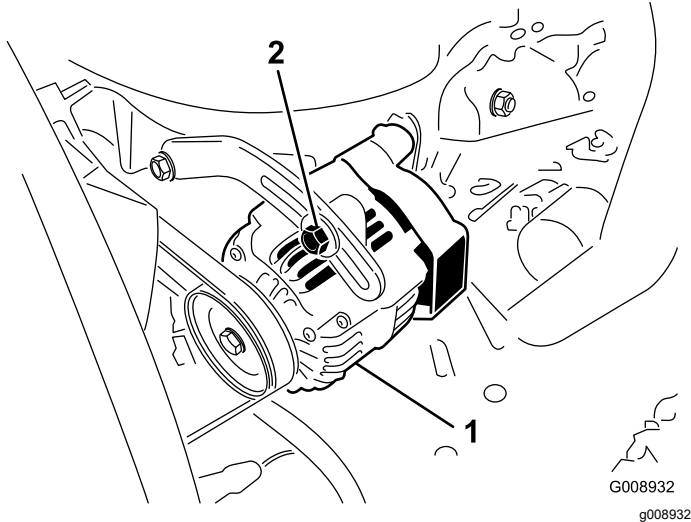

Figure 61
2. If the deflection is not 10 mm (3/8 inch), loosen the alternator mounting bolts (Figure 61).